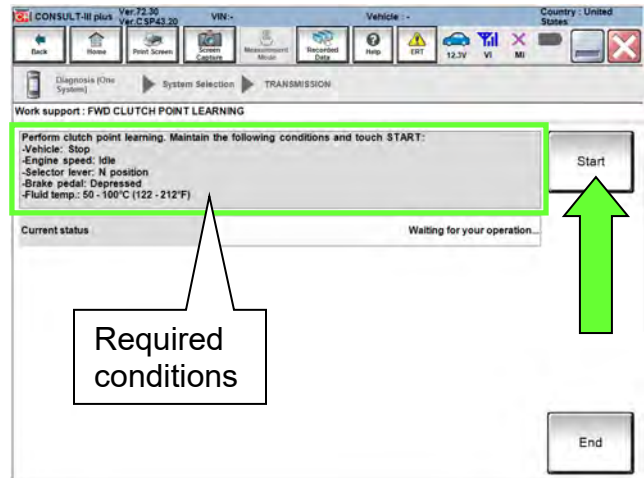

Figure 4L
9. With the engine still running and at idle, depress the brake pedal and shift the CVT into neutral (N).
- Confirm that all of the required conditions indicated in Figure 4L are being met.
11. While maintaining all conditions shown in Figure 4L and the “Current status” indicates “EXECUTING”, shift the CVT into **D** and then wait until the Current status indicates “COMPLETED”.